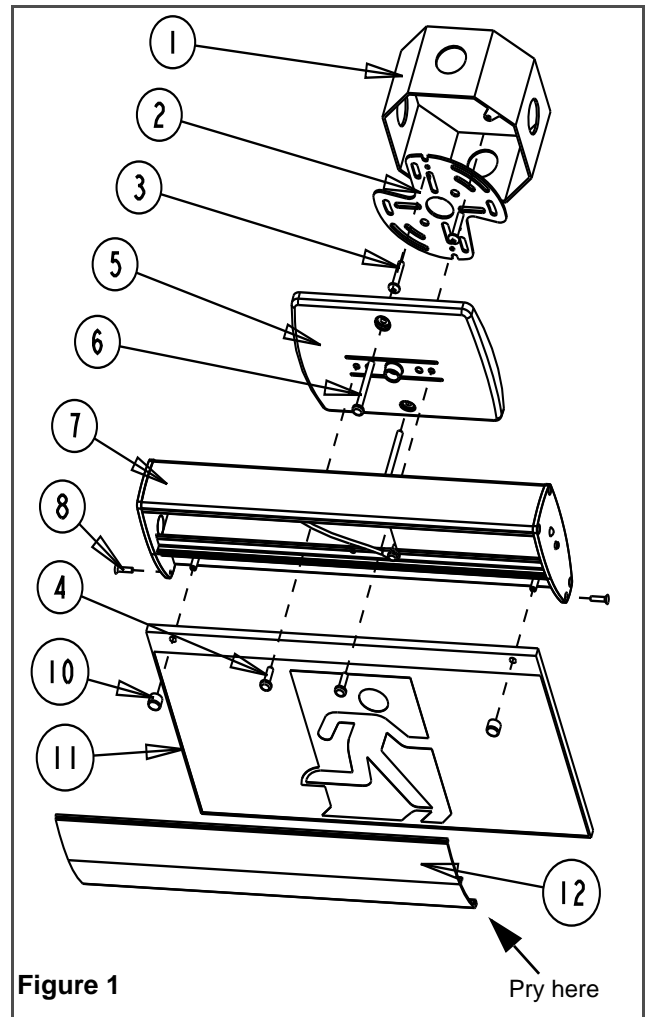

Figure 1
3. Manually unsnap cover (12) by using your fingers, lift the bottom of the cover and remove (if the cover is difficult to open gently pry the cover using a flat head screw-driver at the point indicated in Figure1).
Wall Mount (See Figure 1)
3. Pour ouvrir l'enseigne, soulever le couvercle. (Si le couvercle est trop difficile à ouvrir, utiliser un tournevis plat et soulever au point indiqué sur la figure 1)
Montage mural (voir figure 1)